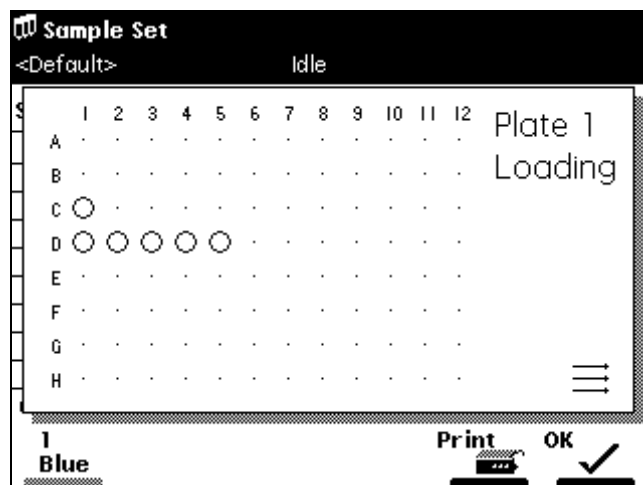

Figure 5-29 Plate Loading View
- **Plate Loading View** – Displays the plate graphically within the Loading View. Use the Plates screen key (Figure 5-29) to display the Plate Loading view (see Table 5-22).